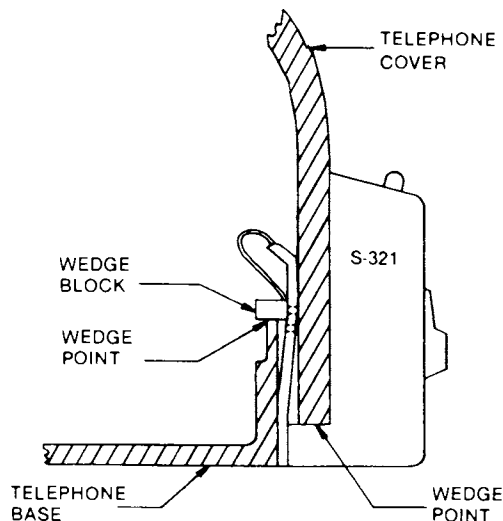

Fig. 3 — Schematic Showing Connections to Outside of Telephone Instrument.
3.03 Locate the wedge block of the Line Hold bracket (Fig. 3) in the upper set of holes. In this position it will fit most telephones.